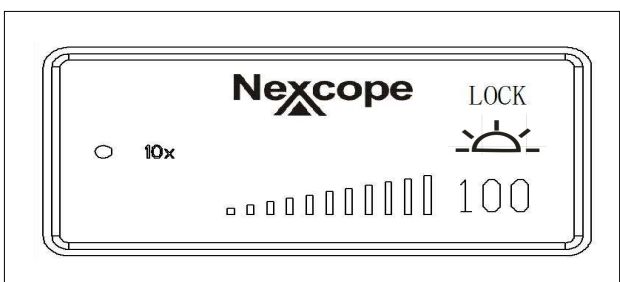

Fig.13.1
3. Light intensity lock: Select Lock through the knob, click the knob to enter the lock state, as shown in Figure 13.1. When locked, the dimming handwheel fails, and the LCD screen displays "LOCK"; "LOCK" refers to the user setting a specific brightness when using a certain magnification objective to avoid being changed by another user and using a locking function to fix it. In this case, when turning to another multiple, the brightness automatically changes to the corresponding multiple's brightness, but the dimming handwheel also fails. Press and hold the knob for 3 seconds to enter the function setting interface. Rotate the knob to select the Lock function and click to release the lock function. The "LOCK" on the screen disappears.